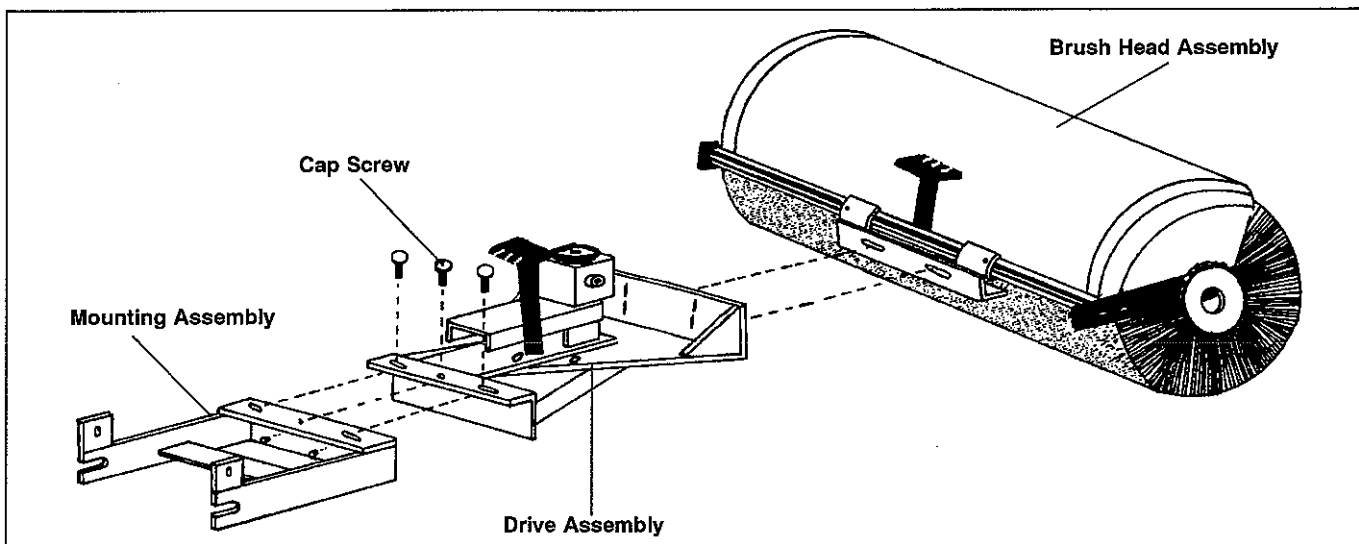

figure 1
Install the mounting assembly (figure 1) on the tractor by following instructions enclosed with those parts. Then proceed to Drive Assembly or Brush Head Assembly if your sweeper has a mounting assembly that includes a gearbox.
1. Position the drive assembly (figure 1) in front of the mounting assembly with the gearbox up.
2. Place the rear of the drive assembly on the front of the mounting assembly. Install a 3/8-16 x 1 1/2 in. cap screw, flat washer, lock washer and nut in the center hole (figure 1), but do not tighten the hardware completely.
1. After installing the mounting and drive assemblies, position the brush head assembly (figure 1) in front of the drive assembly.